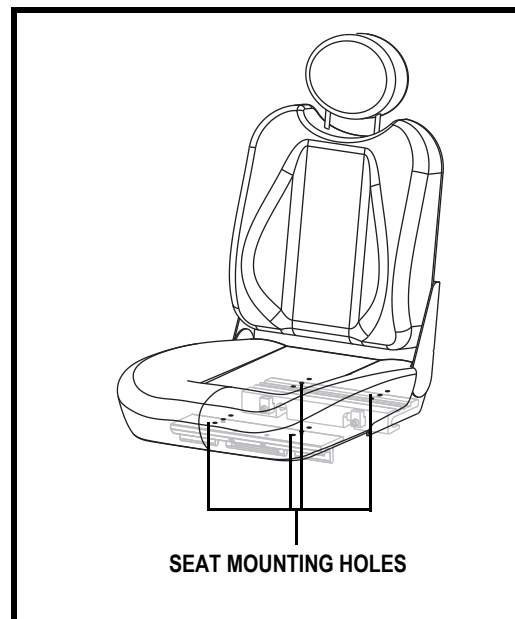

Figure 16. Seat Position Adjustment
5. Reposition the extrusions on a different set of mounting holes. You must move both extrusions the same number of holes either forward or rearward. See figure 16.